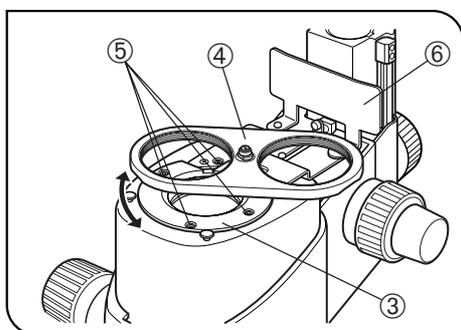

Fig. 21
4. Place the nosepiece mount ③ (with its objective mounts ④ facing upward) where the objective has been by aligning the screw holes. Using the Allen wrench (for M3 screws), clamp the nosepiece mount with the provided four clamping screws (M3, 6 mm long) ⑤. (Fig. 21)
★ As the screw holes may be hidden behind the objective mounts ④, clamp the nosepiece mount while rotating it. (Fig. 21)
6. Attach two objectives onto their respective objective mounts ④ by screwing. (Fig. 21)